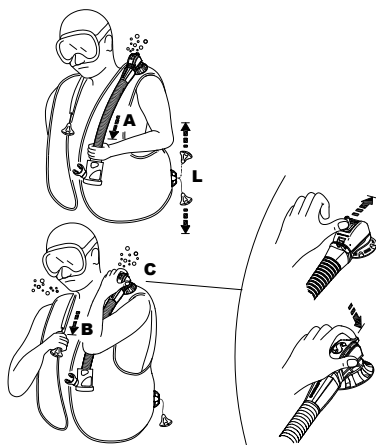

fig. 7
- a. pulling gently on the hose assembly (fig. 7 - A).
- b. pushing on the button that protrudes out of the valve casing (fig. 7 - C) (Patented): this system could be useful also to purge air of another diver having problems (panic, beginner diver, unconsciousness, etc.).
- The SCUBAPRO® Dual Manual Dump Valve (Patent) has a safety hand button that releases air when pushed (fig 7-C), in case of failure of the Manual Dump System (broken cable, pin, etc.) or while breathing from an Air 2.
Shoulder valve (fig. 7-B)
The valve on the right shoulder, if present, is activated by pulling gently on the knob which is connected via a lanyard to the valve itself (fig. 7 - B). To operate either style of dump valve, orient the valve to a position higher than the air bubble in the BC. Activate the dump valve until the desired amount of buoyancy is reached. Stop pulling/pushing to close the valve (fig. 7 - B).
Lower Dump Valve (fig. 7 - L)
the deflation devices with the maximum outflow of gas are the shoulder valve fig. (7-B) and the lower valve (fig 7-L).